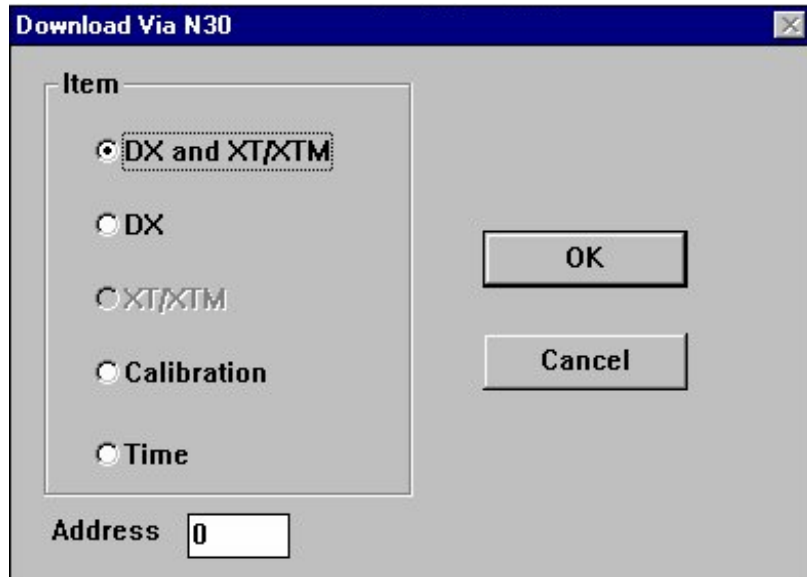

Figure 11-1: Download Via N30 Dialog Box
1. On the Action menu, click Download via N30. The Download Via N30 dialog box appears (Figure 11-1).